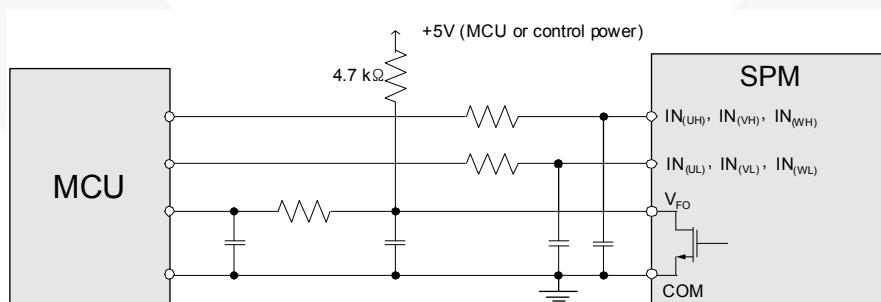

Figure 14. Recommended MCU I/O Interface Circuit
- V_{FO} output is an open-drain type. This signal line should be pulled up to the positive side of the MCU or control power supply with a resistor that makes I_{FO} up to 2 mA. Please refer to Figure 14.